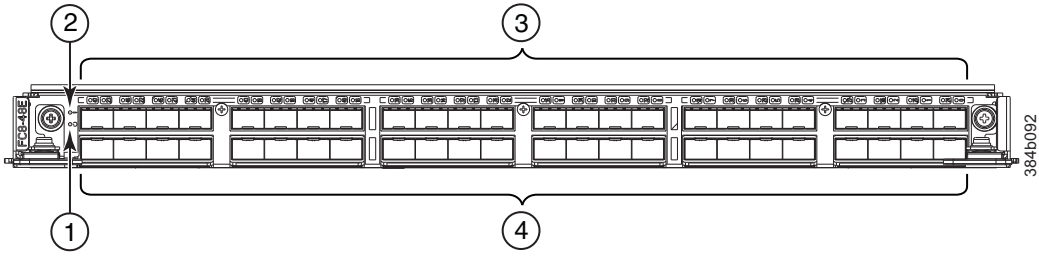

Figure 56. FC8-48E port blade
- Figure 56 on page 143 shows an FC8-48E port blade